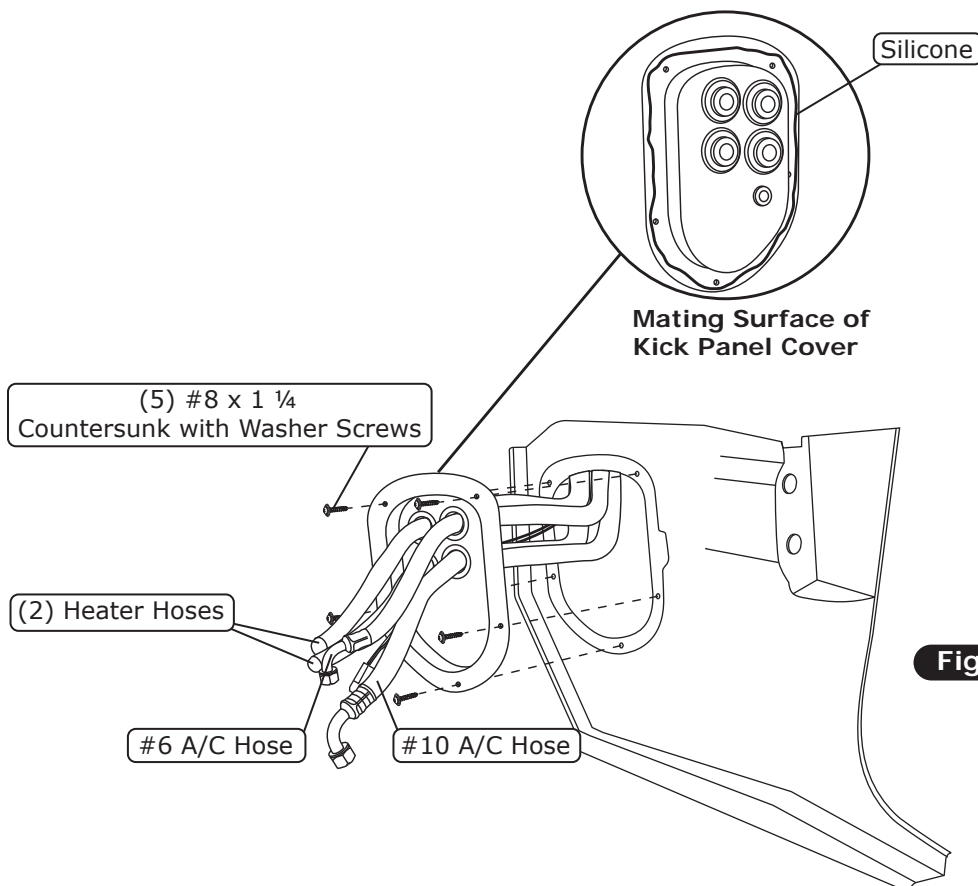

Figure 1
1. Route the A/C and heater hoses through the kick panel cover as shown in Figure 1, below.
2. Apply 1/4" bead of silicone around the mating surface of the kick panel cover as shown in Figure 1, below.
3. Secure the kick panel cover using (5) #8 x 1 1/4" countersunk with washer screws as shown in Figure 1, below.